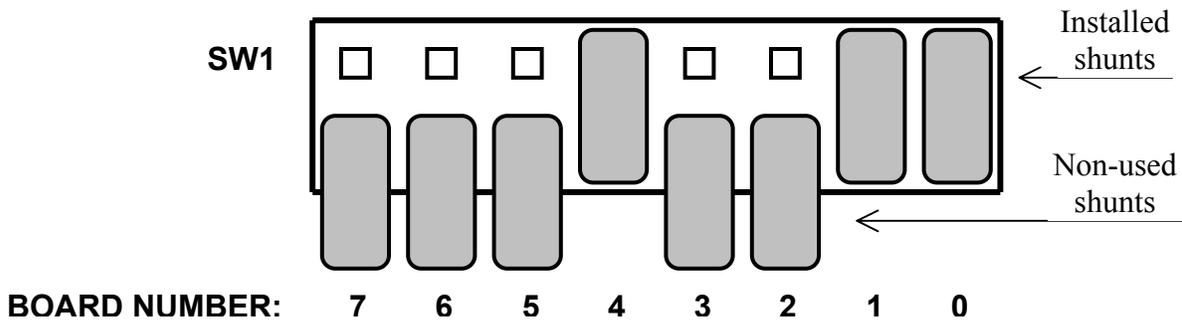

Fig. 2. Sample of the board number setting (#19)
2. Only one board can be active at a given time. Set the **unique** board number for each board before it is included into the system. Binary code is used for the board number. Non-used shunts should be placed on to a single pin as shown in Fig. 2.